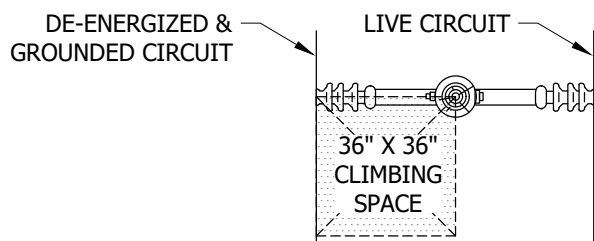

FIGURE 1 (Ib)
- ONE OR BOTH CIRCUITS ARE DE-ENERGIZED, BOND WIRES AND DE-ENERGIZED CIRCUIT ARE GROUNDED, AND CLIMBING SPACE IS PROVIDED AS SHOWN IN FIGURES 1 & 2.